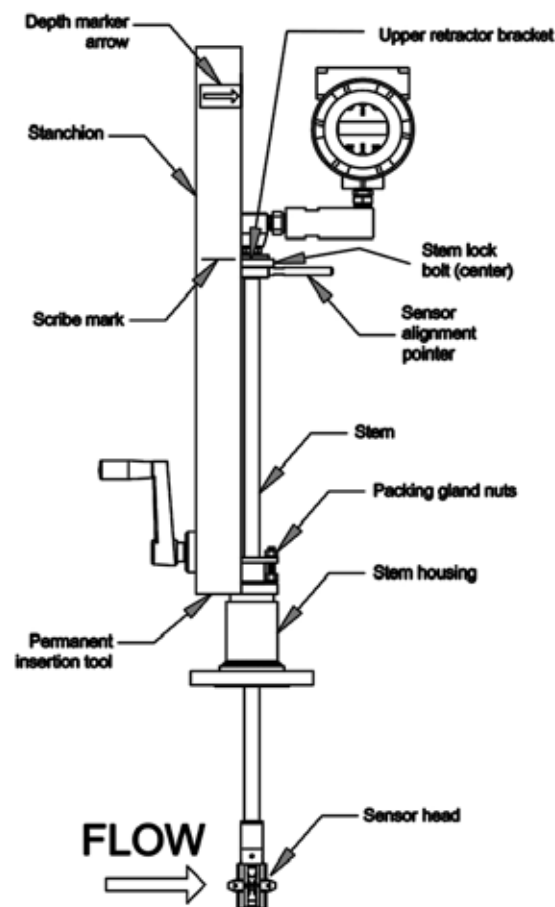

Figure 4. Flow Meter with Permanent Insertion Tool
1. Confirm that the installation site meets the minimum upstream and downstream pipe diameter requirements. See Figure 4.